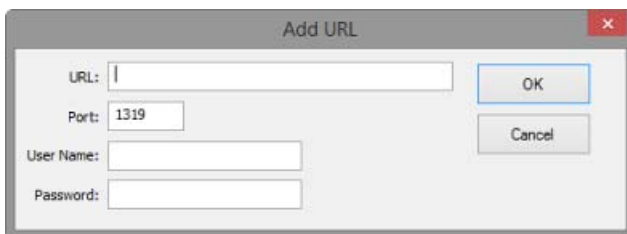

FIG. 47 NetLinX Studio - Add URL dialog
9. In the *URL Listing* dialog, click **Add** to access the *Add URL* dialog, and enter the TPI's IP address in the **URL** field (FIG. 47).